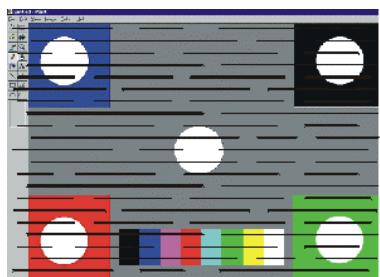
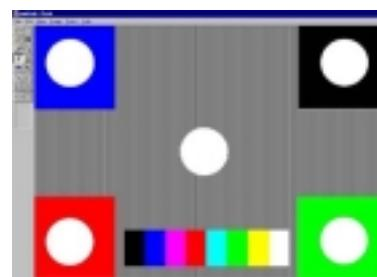

Fig 3
Fig 4
Step 6. If the horizontal noise appear (Fig 3). Select “phase” from OSD menu, then make the adjustment ("+" or "-") to let the horizontal noise disappear (Fig 4).